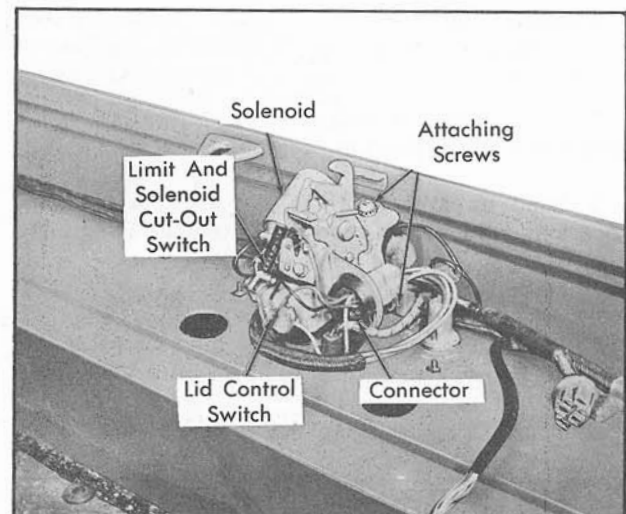

Fig. 17-59 Power Lock Assembly
3. Remove lock cylinder; then, remove screws securing lock assembly and remove lock, Fig. 17-59.